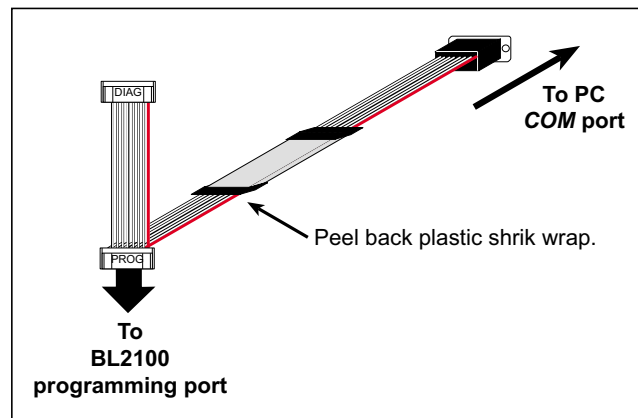

Figure C-5. Peel Back Plastic Shrink Wrap
1. Peel back plastic shrink wrap as shown in Figure C-5.